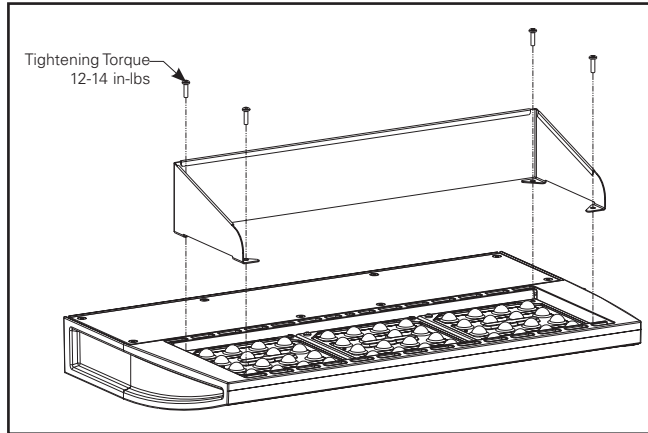

Figure 13.
1. Loosen and remove the existing (4) corner 8-32 screws on the face of the fixture (Figure 13) and retain for future reference.
2. Orient visor in the direction desired per application. Align visor on top of optic lens to match the (4) existing holes.
3. Use the existing (4) 8-32 screws to secure visor.